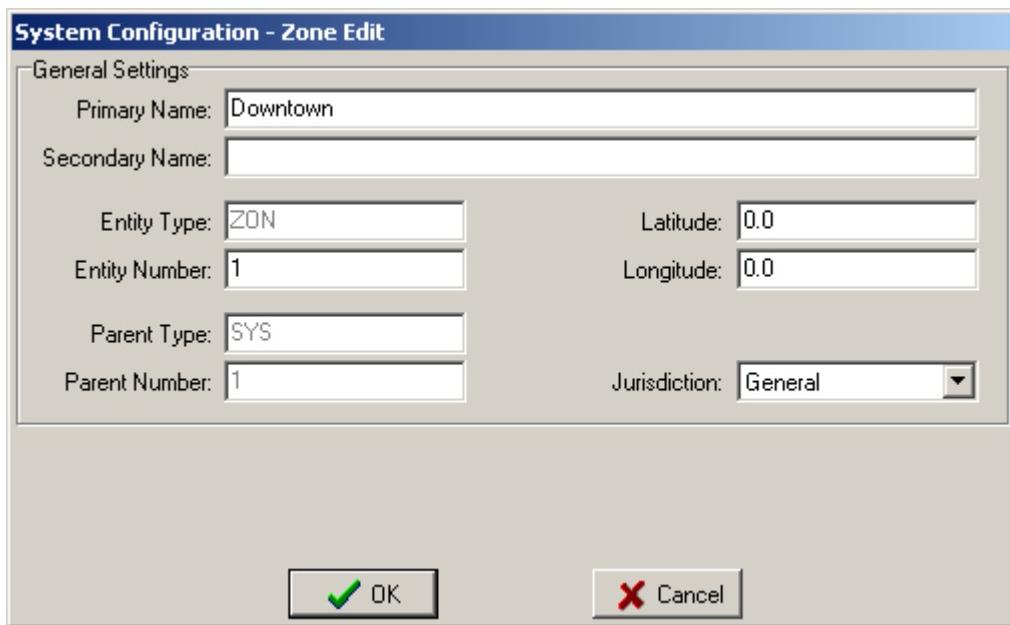

Figure 4-3: Defining a Zone
- Select 'ZON' from the Object Types pull down list. Figure 4-3 will then appear.